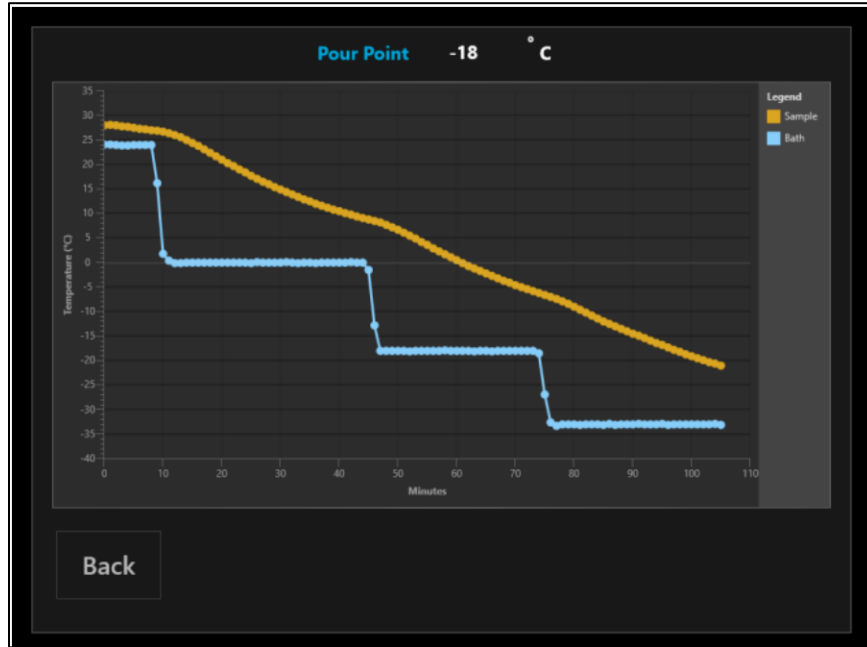

Figure 17. Graph
3. Once the test is running there will be a graph of both the sample and bath temperatures vs. time. A sample graph is shown in Figure 17 below.